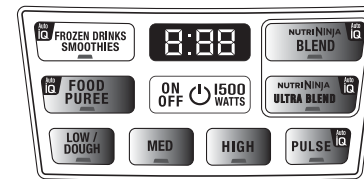

Fig. 1
- 3 Holding the Stacked Blade Assembly by the top of the shaft, place it onto the drive gear inside the pitcher. Ensure that the Stacked Blade Assembly is seated properly and is standing upright. **(Fig. 1)**
NOTE: Nutri Ninja I Ninja® Blender Duo with Auto-iQ® Technology can sense which jar is on the motor base. The available function lights will illuminate depending on which jar is placed on the motor base. (Fig. 1)